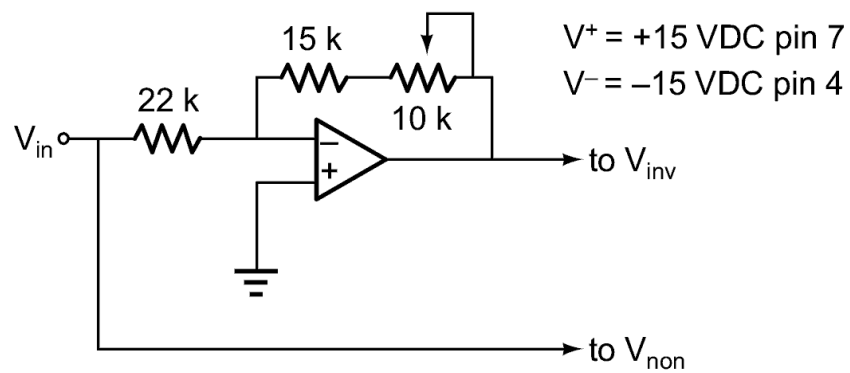

Figure 2
11. Assemble the circuit of Figure 2. Adjust the potentiometer to set the voltage gain to precisely  $-1$ . This circuit is a simple phase-splitter and is used to generate a differential input signal.
12. Connect the circuit of Figure 2 to the original circuit as shown.